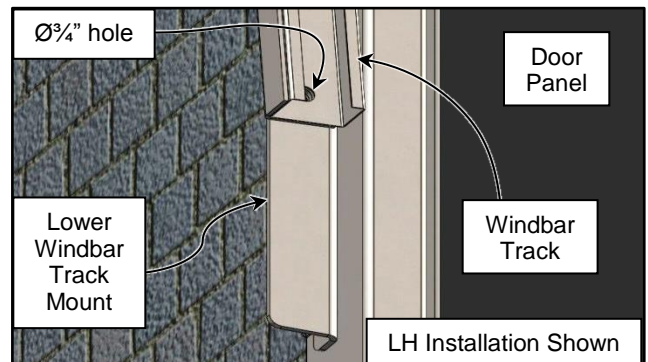

Figure 49
9. Butt the windbar tracks up against the side column covers and the lower mounting bracket as shown. (See Figure 49)